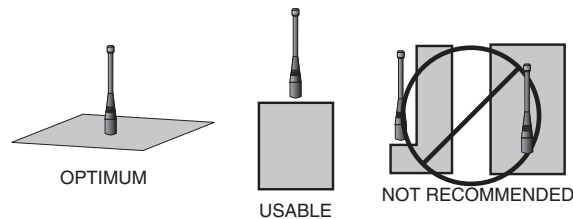

Figure 58: Ground Plane Orientation
2. Optimum performance is obtained from a $\frac{1}{4}$ - or $\frac{1}{2}$ -wave straight whip mounted at a right angle to the ground plane (Figure 58). In many cases, this isn't desirable for practical or ergonomic reasons, thus, an alternative antenna style such as a helical, loop or patch may be utilized and the corresponding sacrifice in performance accepted.